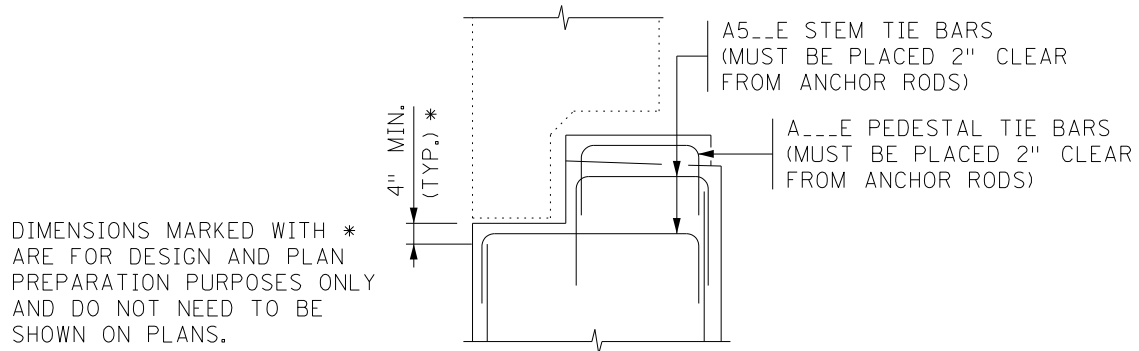

Figure 5
1. For semi-integral abutments, space the A5__E stem tie bars along the entire length of the abutment, even under the pedestals. They are not replacements for pedestal tie bars. (See Figure 5.)